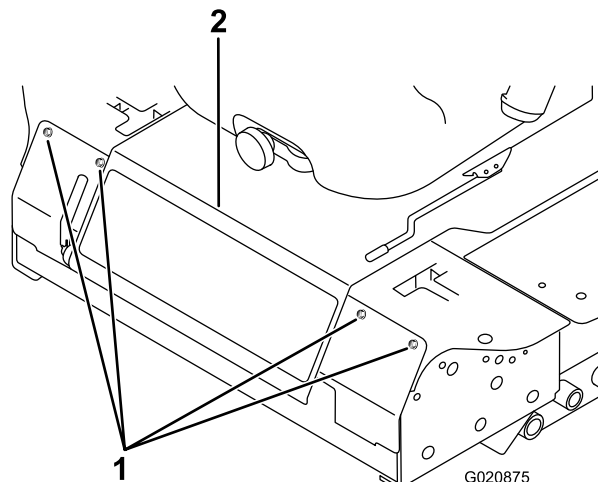

Figure 81
3. Remove the bolts securing the front panel and remove the panel (Figure 81).